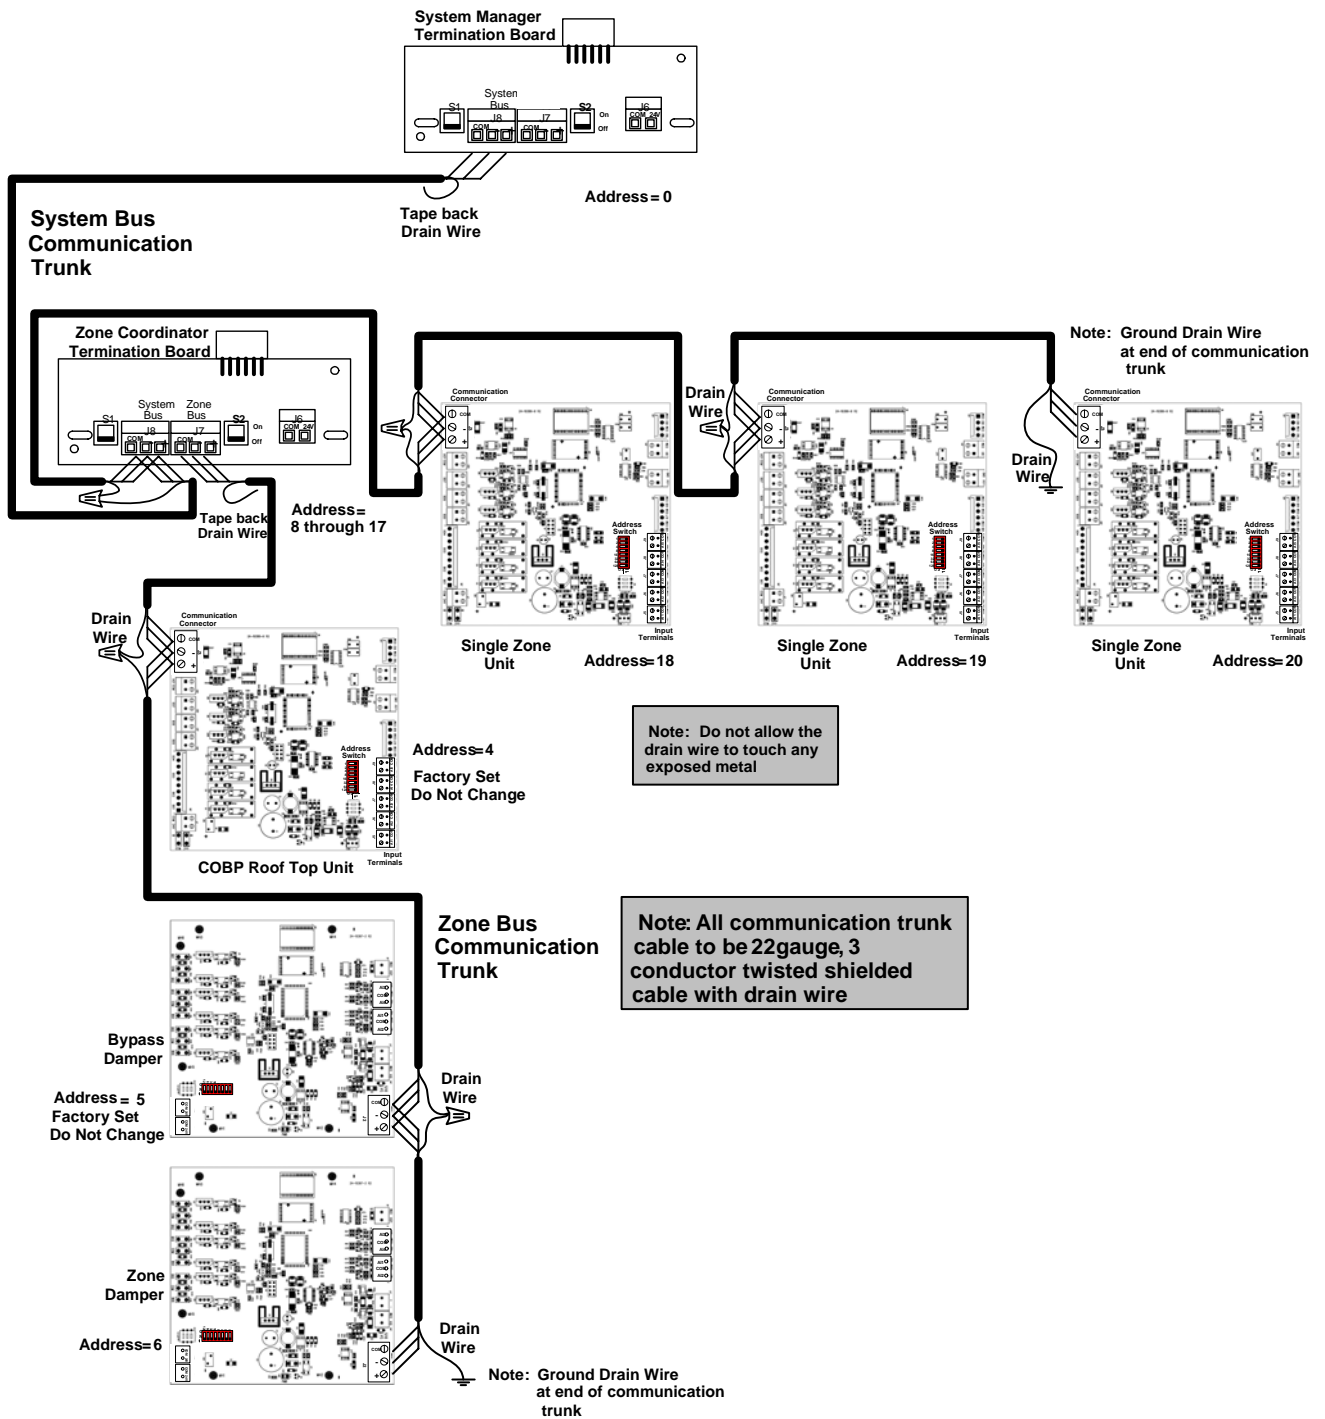

Figure 5: RTU Controller - Typical System Communication Riser
3. Run the cable from the last unit to the location of the System Manager (SM) or Zone Coordinator (ZC). Follow the connection instructions for the SM or ZC. Figure 5 displays a typical communication riser.
Figure 5 shows the RTU controller communication riser.